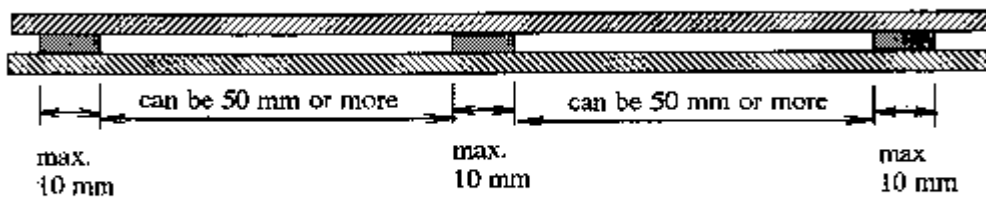

Figure 4a - Spacers
a.) Two parallel members may not be glued together along their length. They may however be joined together via intermittent spacers as in Figure 4a. In figure 4a each spacer may not be longer that 10 mm, and the spacing between the spacers should be less than 50 mm